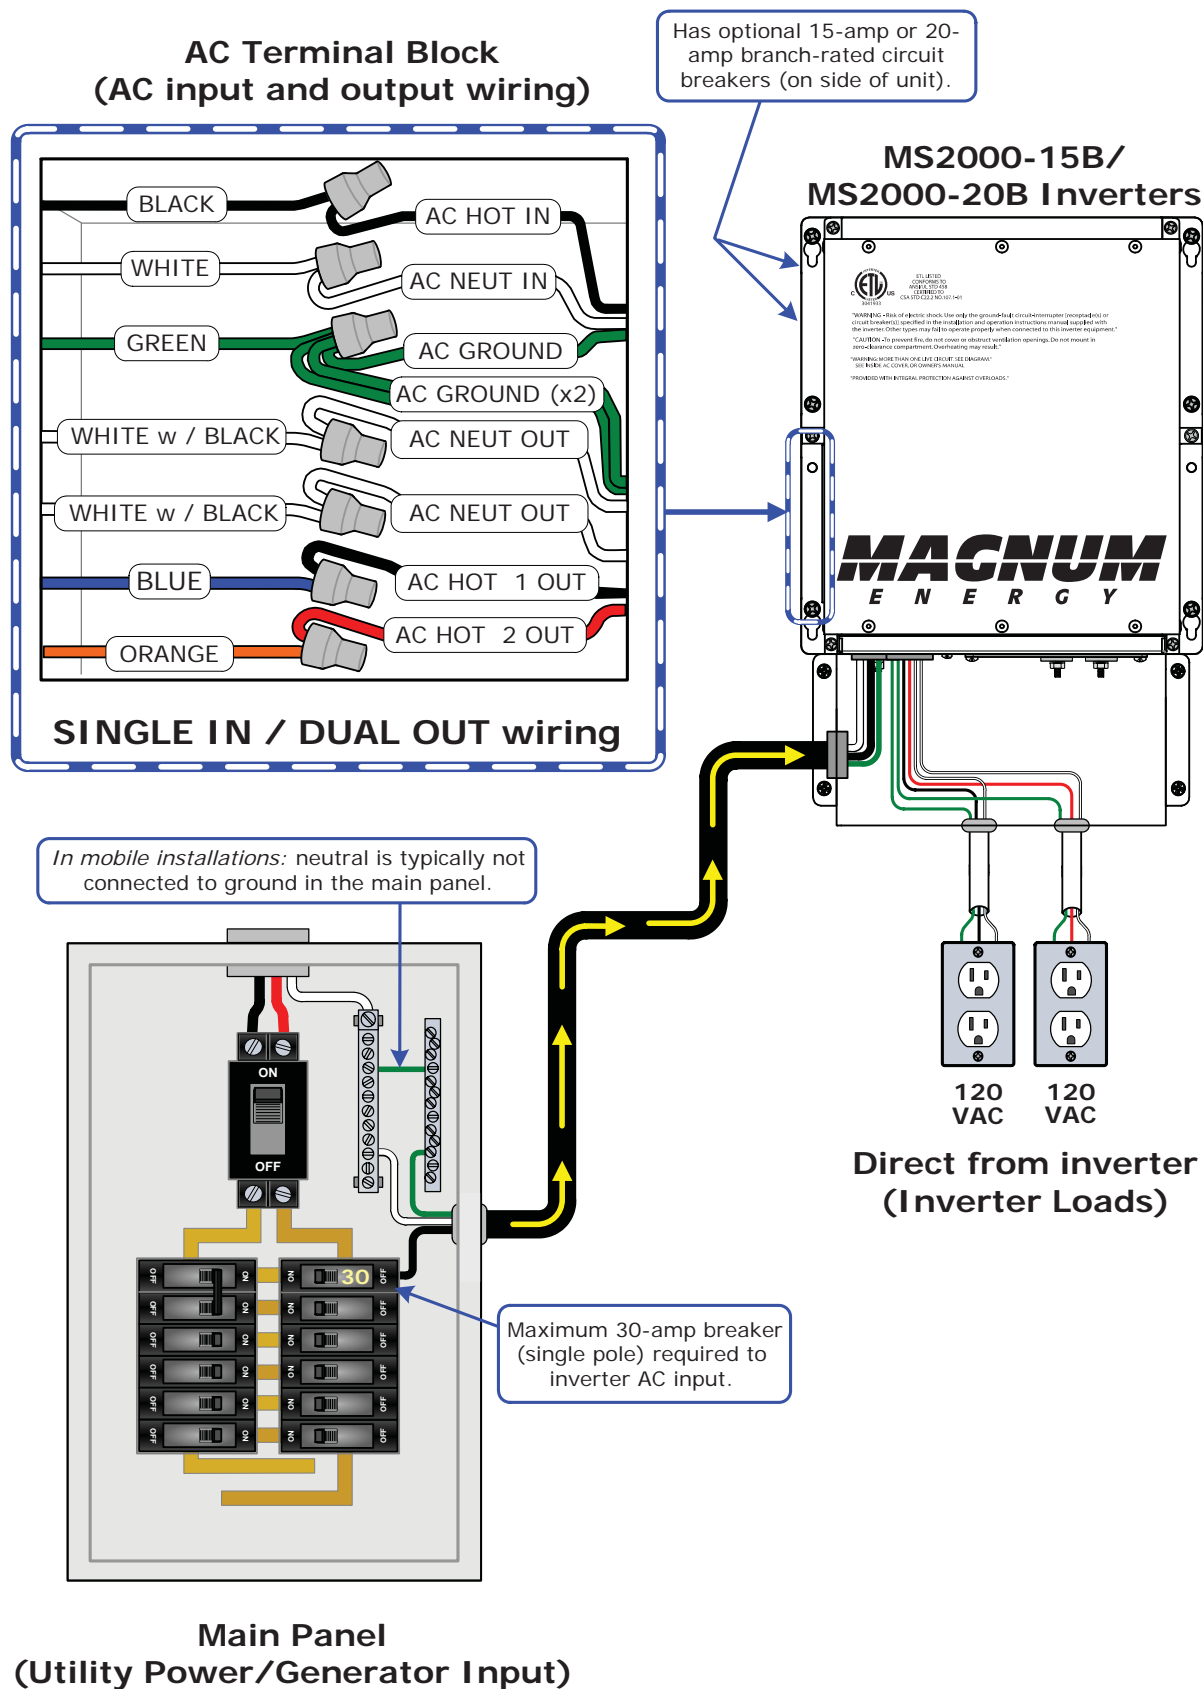

Figure 2-15, AC Wiring for MS2000-15B/-20B Models
Info: Depending on the AC wiring configuration, you may need to connect a wire to the inverter's HOT 2 OUT (orange) wire (see Figure 2-15).
3. Connect the inverter's NEUTRAL OUT (white w/black) wire to the sub-panel's neutral busbar (or to the neutral connections on the outlets, if using the output breaker versions - see Figure 2-15) using field wiring leads.